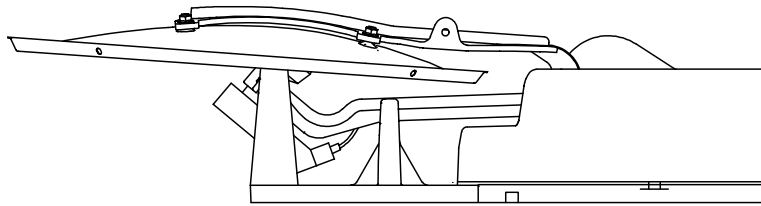

Figure 27
4. If the antenna is in the park/travel position, Figure 27, perform the park command again. If antenna Parking System Fail message still appears, perform the **Return to Defaults** procedure, page 6.